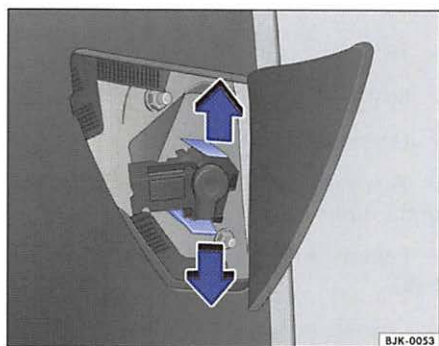

Fig. 40 Back-up bulb holder
- Expand the two retaining tabs in the direction of the arrows ⇒ fig. 40 and pull the bulb holder out.